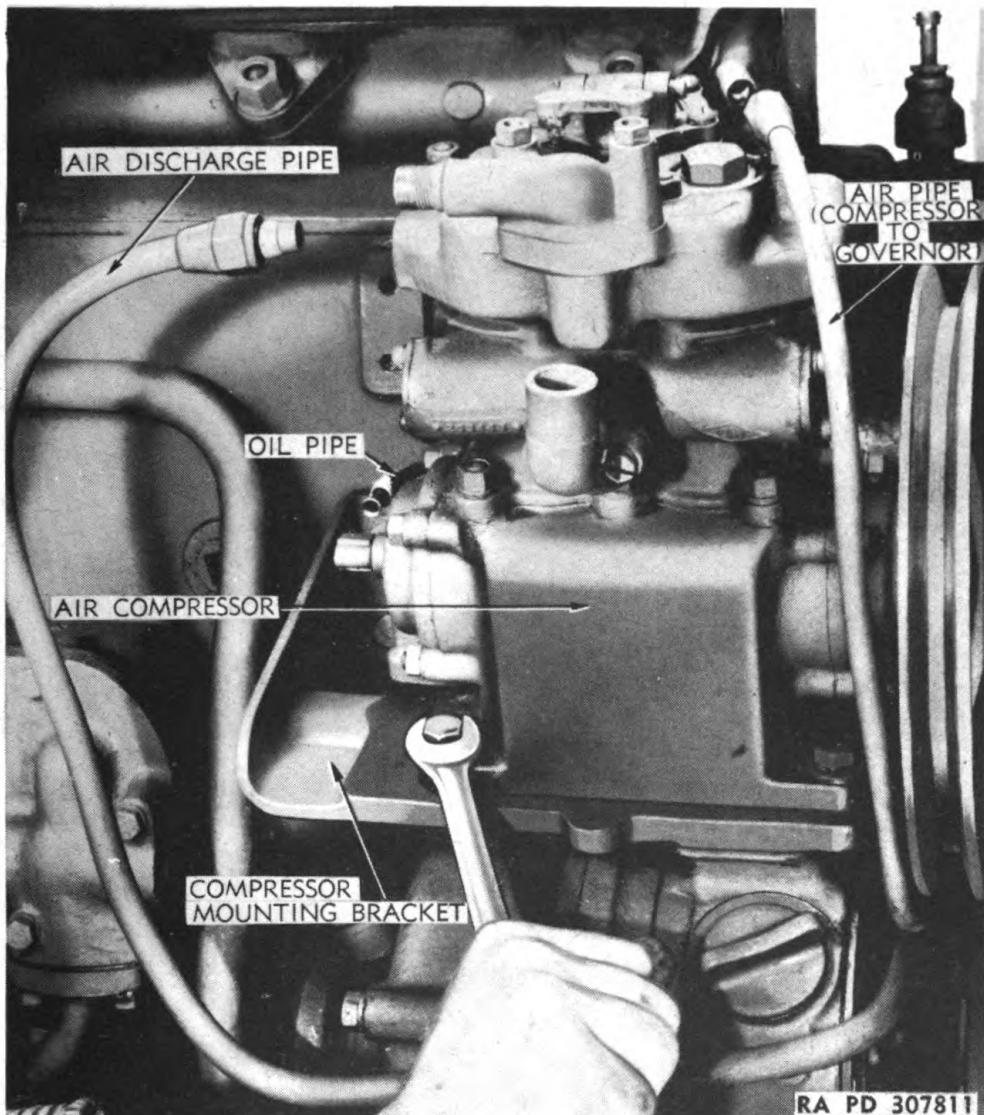

Figure 7 — Removing Air Compressor
e. Remove Air Compressor. Disconnect all air, oil, and water lines from compressor, remove the four cap screws attaching compressor to mounting bracket (fig. 7) and lift off compressor.